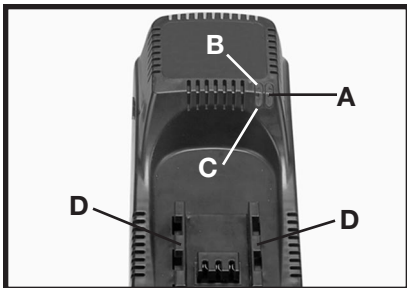
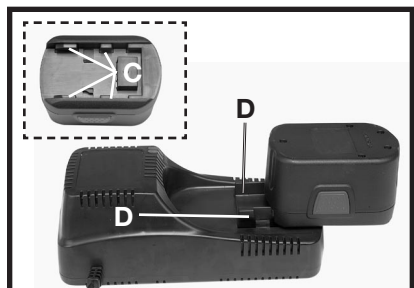

Fig. 2
Fig. 3
Make sure power circuit voltage is the same as that shown on the charger specification plate. Connect charger to power source. The orange light (A) Fig. 2, should light up. This indicates the charger is ready to begin charging.
Position battery pack on charger, align rails (D) Fig. 2 and Fig. 3, on battery charger with four tabs (C) Fig. 3 on battery pack. Slide battery forward onto charger until it stops.
The red light (B) Fig. 2, should begin to glow continuously, indicating that the battery pack is receiving a "Fast Charge" (if the red light does not glow continuously, and the green light (C) Fig. 2, begins to glow: remove battery and re-insert when battery temperature is between 40°F (4.4°C) and 104°F (40°C). After approximately one hour, the "Fast Charge" indicator light (red) should go out indicating that the battery pack is fully charged and that the charger is now in a "Trickle Charge" mode (green light). The battery pack can be left on "Trickle Charge" until you are ready to use it.